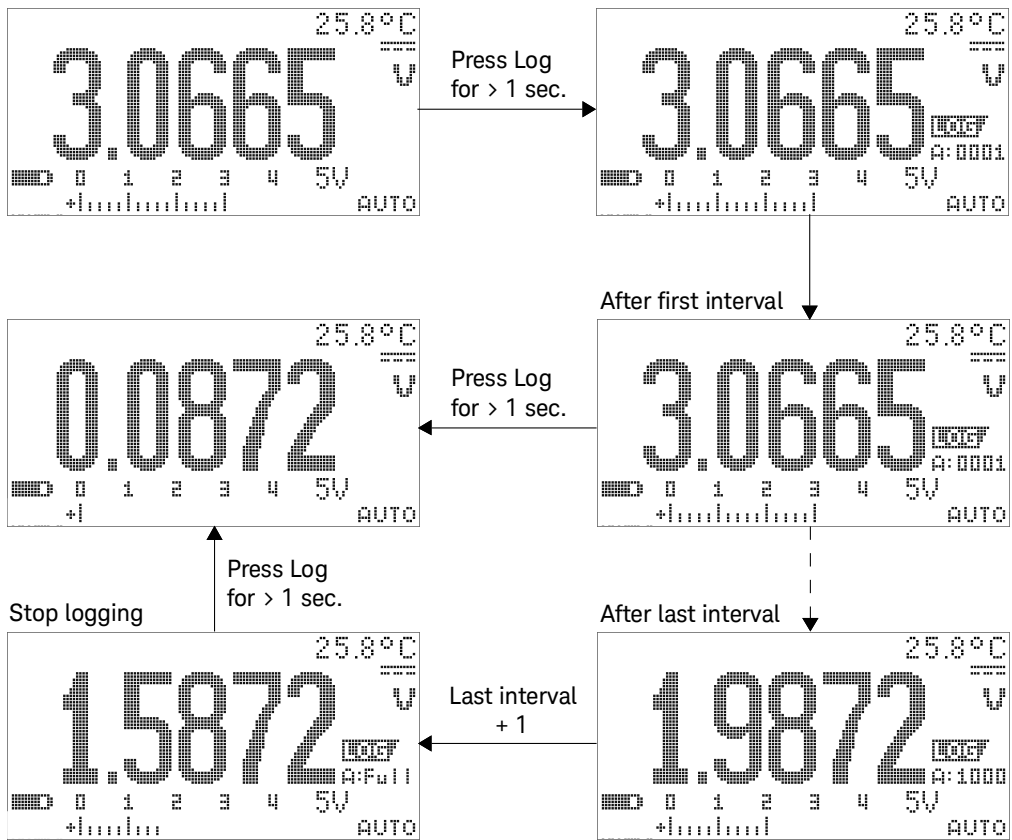

Figure 3-10 Interval (time) logging mode operation
- 1 Press  for more than 1 second to store the present value and function on the primary display into the non-volatile memory. The  and the logging index will be indicated. Subsequent readings are automatically logged into the memory at the interval (LOG TIME) specified in Setup mode. Refer to Figure 3-10 on page 100 for how to operate this mode.